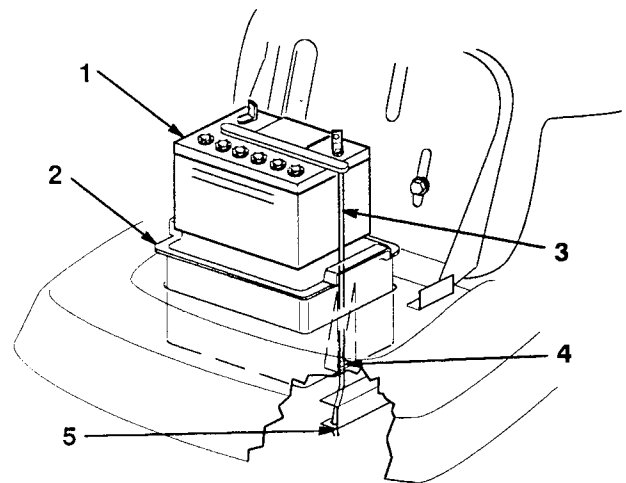

Figure 20
5. Remove the battery box, battery, and long vent tube from the chassis (Fig. 20).
1. Put the battery into the battery box and slide the vent tube into the channel and through the slot in the bottom of the box (Fig. 20).
**IMPORTANT:** Look down into the cut out area where the battery box fits into the chassis. Notice the hole at the end of the right frame member (Fig. 20). Always install the long battery vent tube through the hole to prevent battery acid from corroding the tractor and mower.
2. Install the battery box and battery into the chassis (Fig. 20). Make sure to slide the end of the vent tube through the hole in the frame (Fig. 20).